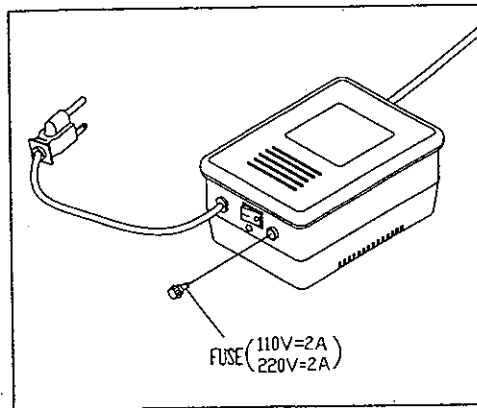

Fig. 1
1. Locate the fuse holder (2 Amp) on the front of the adapter (see Fig. 1).